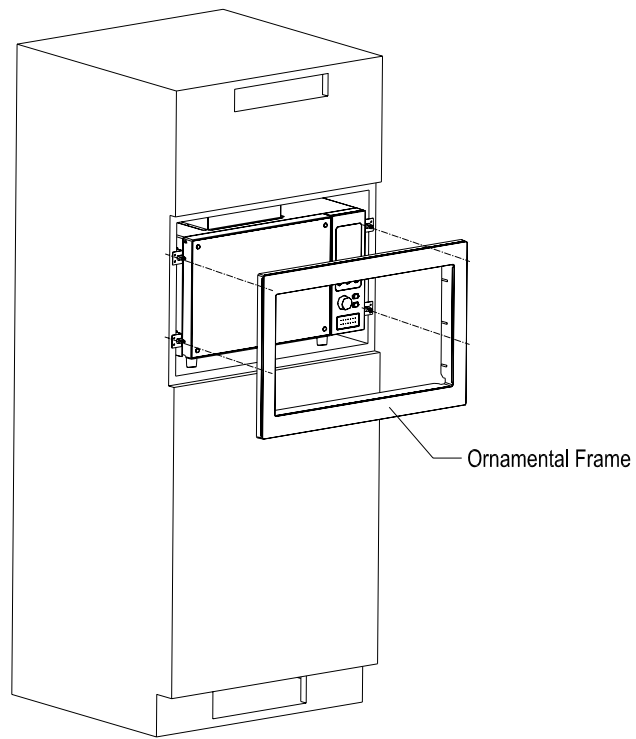

Fig.4
a) Intake and exhaust port on back surface, as shown in Fig.4.
d) Secure ornamental frame to holders,as shown in Fig.4.